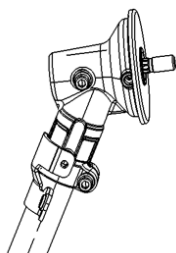
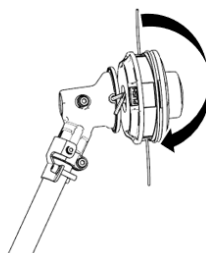

Fig.4
Fig.5
2. Rotate the drive shaft until you can see a hole inside the side of the gearbox (Fig. 4), place the Allen key #1 inside the inner hole and turn the cutting head onto the drive shaft counter-clockwise, until it is tight enough. (Fig. 5)